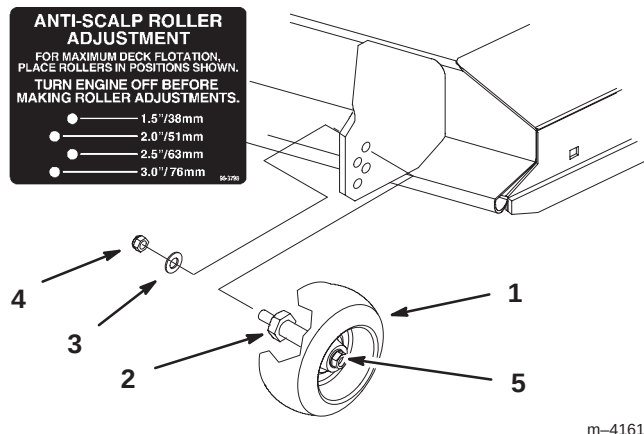

Figure 21
2. After adjusting height-of-cut remove flange nut and spring disk while holding stud with wrench (Fig. 21).
Note: Do not remove the wheel nut and washer (Fig. 21).
3. Select hole so gage wheel is positioned to the nearest corresponding height-of-cut desired (Fig. 21).
4. Reinstall the flange nut and spring disk. Torque to 40–45 ft–lbs. (54–61 N•m) (Fig. 21).